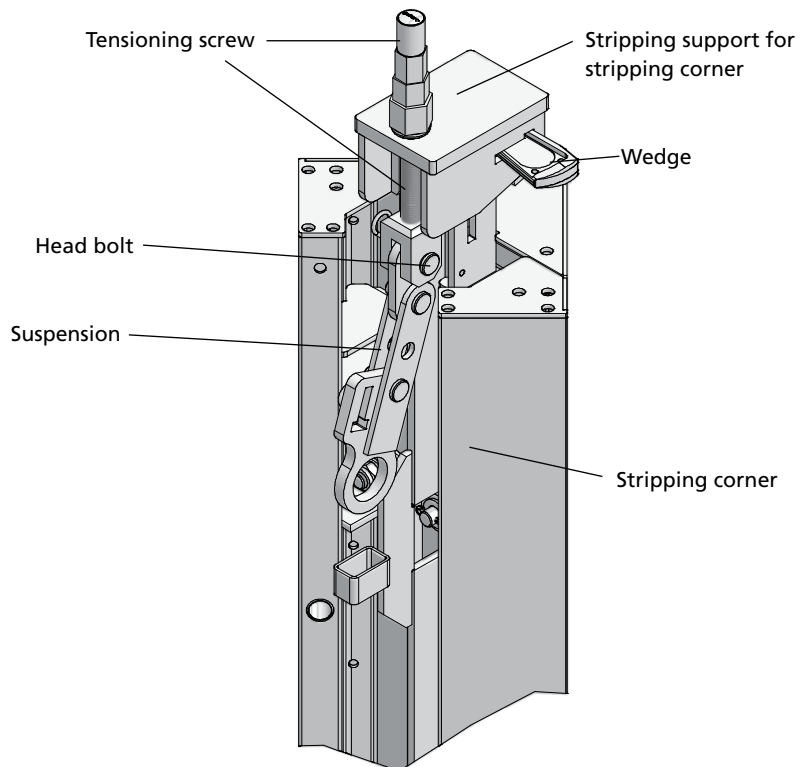

Fig. 33.2
1. Place the stripping support onto the connecting device at the top of the stripping corner. Make sure the suspension is inclined downwards (Fig. 33.2).
2. Connect the stripping support to the stripping corner with the head bolt 16/40 and cotter pin 4 that are both integrated in the tensioning screw of the stripping support (Fig. 33.2).
3. Lock the stripping support to the stripping corner by driving the stripping corner's wedge with a few hammer blows into the opening of the stripping support (Fig. 33.2).